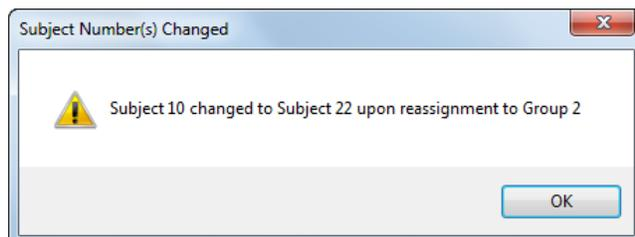

Figure 5-7.Subject Number Changed Window
- If a subject with the same number already exists in the group, the subject number is changed to the next higher number and the dialog shown in Figure 5-7 displays the new subject number.
Subjects can also be dragged and dropped onto a different group. A confirmation window prompts you to verify the reassignment. Clicking Yes moves the subject to the new group. Clicking No cancels the reassignment. If the subject is renumbered, the Subject Number Changed Window displays as shown in Figure 5-7.